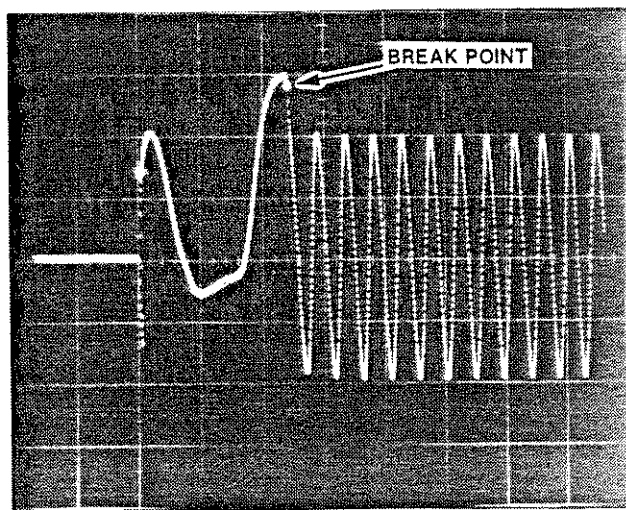

Fig. 3-49. Transient waveform acquisition with a breakpoint.
15. Turn on the sine wave generator. As soon as the signal meets the TRIG LEVEL 1 or 2 requirement, the TRIG'D indicator turns on indicating that the waveform is being acquired. As soon as the waveform is acquired, the HOLD status is set and the waveform is displayed (Fig. 3-49).
16. Channel 2 also may be displayed on the CRT monitor, even though no waveform data is being input. This display can be removed by pressing the DISPLAY LOCATION key twice turning on the CH2 DISPLAY indicator, then turning the Parameter Entry Knob until a display location of zero (0) is displayed.